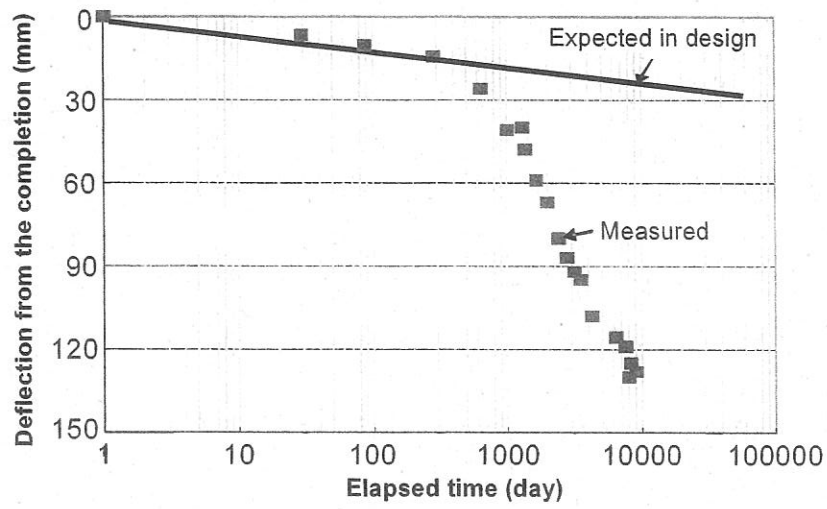
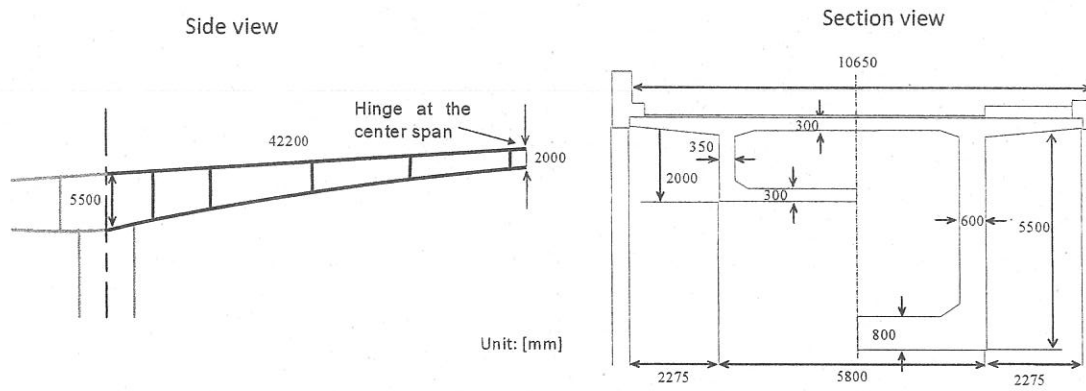

Figure 1
Figure 2
- (1) Flexural failure capacity of reinforced concrete beam is determined by reinforcement ratio and concrete compressive strength when the size of beam is fixed. Explain how the flexural failure capacity changes by these factors in about 15 lines. For the explanation, you should draw a diagram where the x axis is reinforcement ratio and y axis is flexural failure capacity.
- (2) Figure 1 shows a comparison between measured vertical deflection at the span center and corresponding design prediction of a PC (prestressed concrete) continuous rigid frame box girder bridge with a hinge at the center span. Figure 2 shows structural dimensions of the bridge. Departure from the prediction by the linear creep law started a few hundred days after completion of the bridge. The deflection by the linear creep law was calculated by the superposition method with the creep coefficient of 1.58, which was specified in the design code for practice. The concrete compressive strength of 40 MPa, Young's modulus of 35 GPa, relative humidity of 70 %, volume to surface area ratio of 400 mm and drying shrinkage of 185 μ were used in the calculation at design. Answer the following questions.